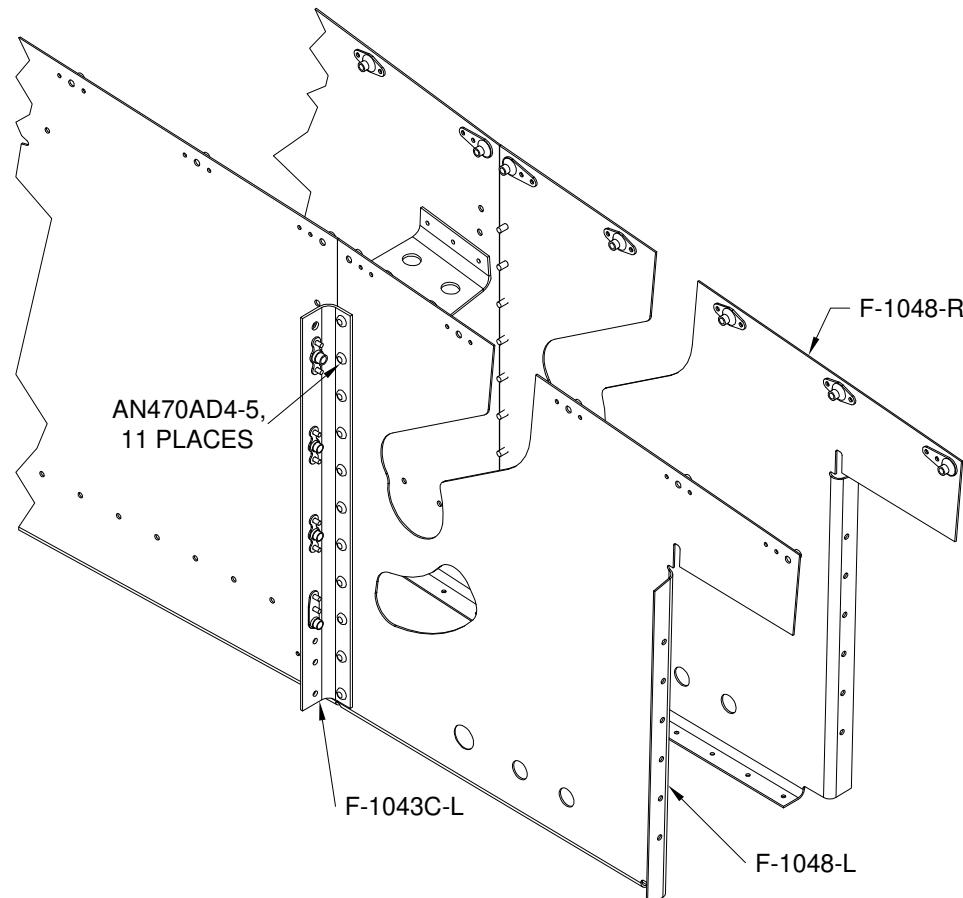

FIGURE 1: RIVET F-1043C-L & R TO F-1048-L & R
Step 2: Rivet nutplates to the F-1043A-L & R Fwd Fuselage Bulkheads as shown on Page 28-10, Figure 1.
Step 4: Rivet the F-1043C-L Attach Angle to the F-1048-L Forward Fuselage Rib as shown in Figure 1.